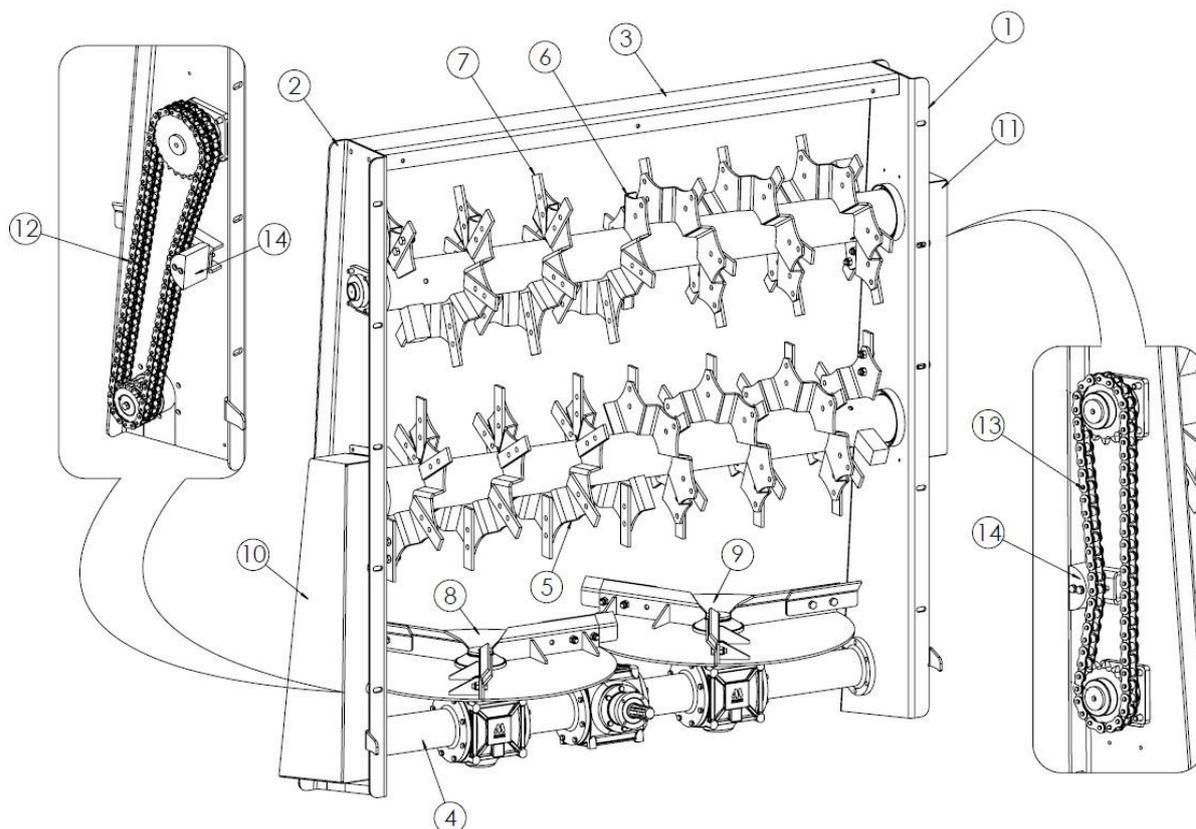

Figure 11. 2-auger horizontal disc adapter
The 2-auger horizontal disc adapter (Fig. 11) consists of a left beam (1), a right beam (2) and an upper beam (3) to form the beater unit frame. In its lower part there is a gearbox (4), on which the spreading discs (5) and (6) are mounted. The main working tools consist of the replaceable blades (7) screwed on to the horizontal rotors (8) and (9). By rotating, the rotors grind the fed material, which is supplied by the adapter guard to the spreading discs. The rotating discs eject the shredded material backwards and sideways. Power is transmitted from the gear (4) to the horizontal rotors (5) and (6), via the chain transmissions installed under the guards (10) and (11). From the gear, power is transmitted to the rotor of the lower 16B2 chain (12). The top auger is powered from the bottom auger by the 20B1 chain (13). The chain tension is controlled by tensioners (14).